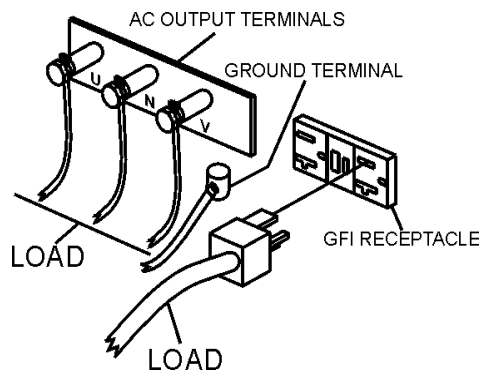

Figure 20. UNV Terminal Lugs (Load)
2. Once it is determined if commercial power is required, connect the load to the UNV terminals as shown in Figure 20. These terminals can be found on the output terminal panel, see page 36, Figure 12. To gain access to the output terminals lift the UNV cover. Make sure to tighten terminal nuts securely to prevent load wires from slipping out.
2. Remove the load from the UNV terminal strip (Figure 20).